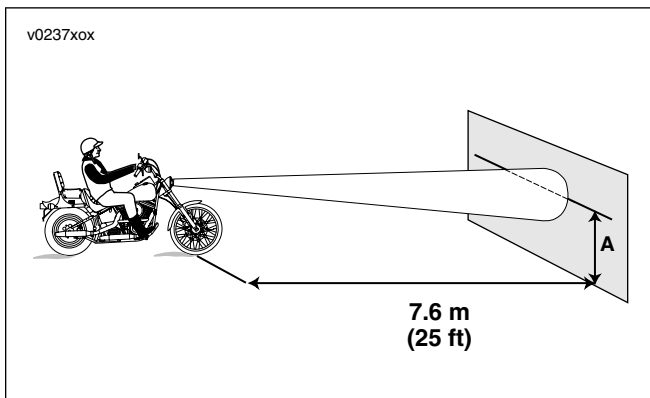

Figure 1-100. Headlamp Alignment
3. See Figure 1-100. Position motorcycle 7.6 m (25 ft) away from a screen or wall. Measure the vertical distance from center of headlamp to floor, and draw a horizontal line (A) on screen or wall at same height above floor.